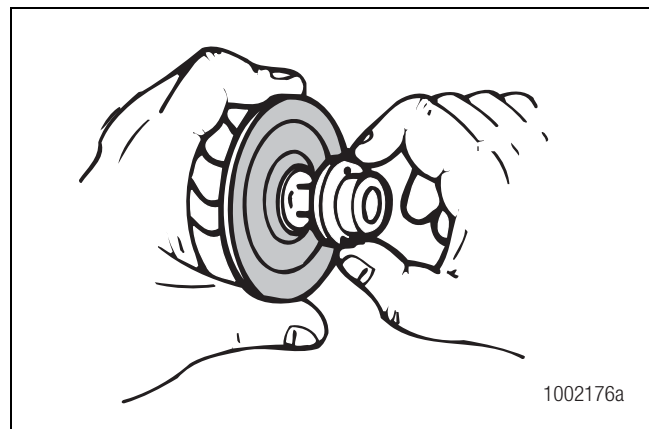

Figure 2.16
9. Install washer on piston assembly. Figure 2.16.